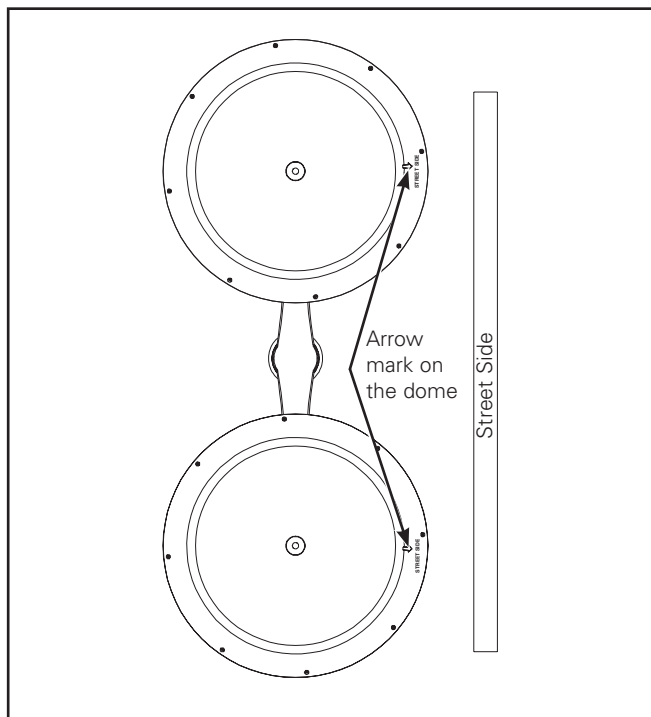

Figure 12.
6. For luminaire with asymmetric optics, rotate the fixtures according to arrow mark on the dome towards the street side. (Figure 12.)